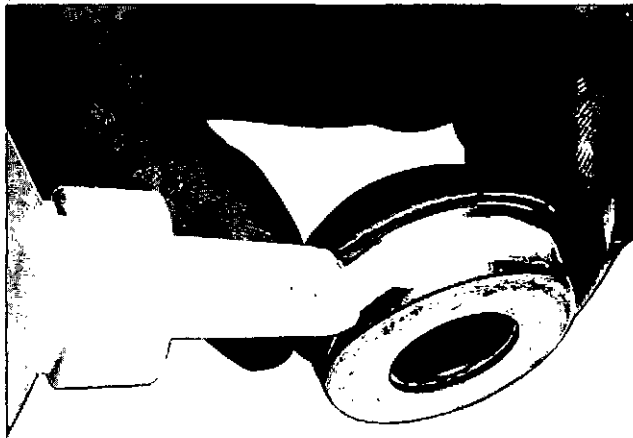

Fig. 8-10 (N10853). Apply Sealant Onto The Seat.
6. Turn the water pump housing and support the drive side of the housing. Apply a coat of Part No. 3375066 Loctite to the outside diameter of the brass part of the seal, Fig. 8-10. Push the new seal into the housing until the seal is against the bottom of the bore. Use the Part No. 3375448 Mandrel to push the seal into the housing.